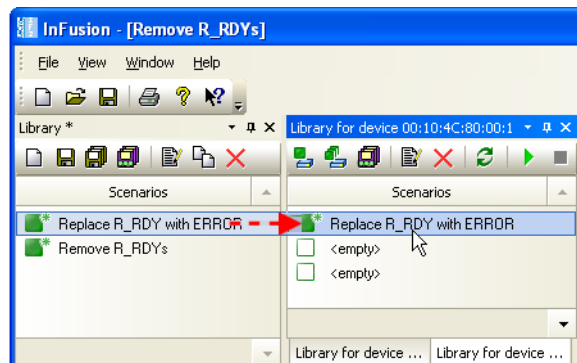

Figure 88 Downloading Scenarios
- Step 1** Open the general library (Main library or a File library). Scenarios in the library are listed in the library window (left side Figure 88).
- Step 4** Copy the scenario from general library to device library by dragging it with the mouse (Figure 88).